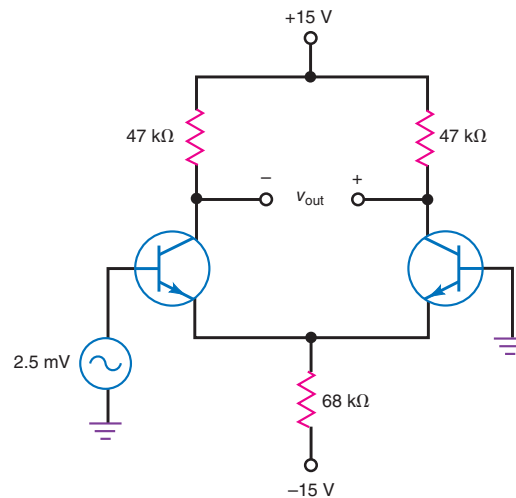

Figure 33-60
- 33.25 In Fig. 33-60, what is the ac output voltage? If $\beta = 275$, what is the input impedance of the diff amp?